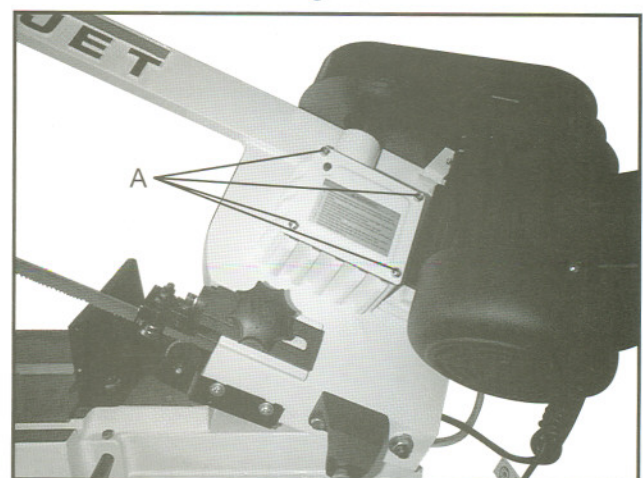

Fig. 20
3. Remove screws (A, Fig. 20) from the gear box and remove the cover plate and gasket.